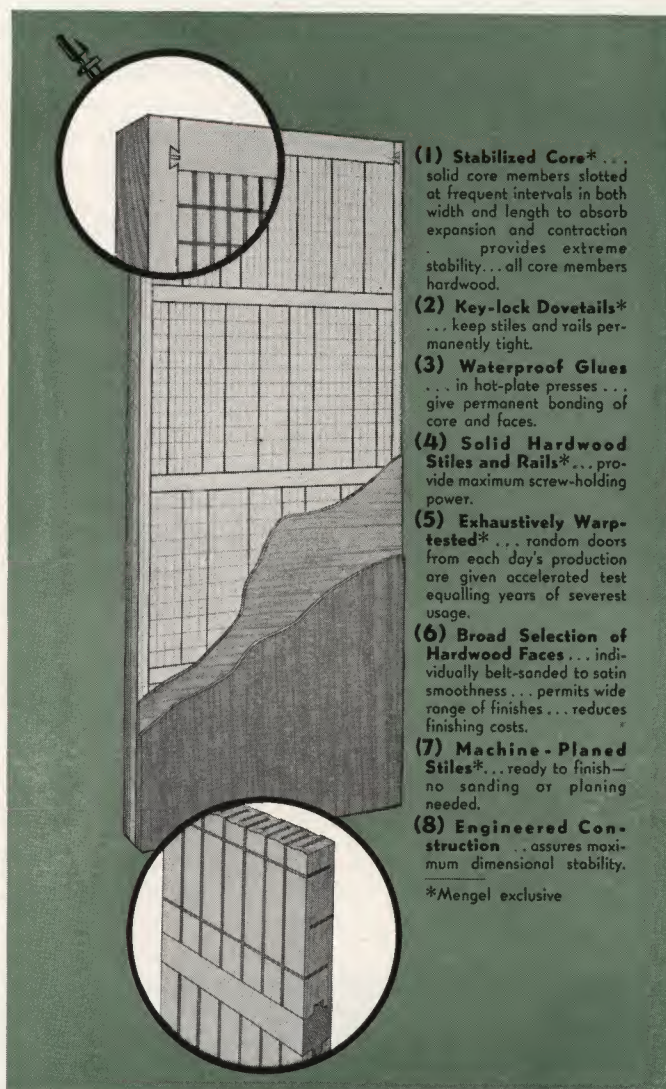

FIGURE 2
Mengel Stabilized Solid-Core Flush Doors are the most dimensionally stable wood doors on the market. They are recommended for exterior applications, and for interior installations wherever solid-core construction is considered desirable. (1) The solid core lumber is scientifically processed to control warpage or movement. (2) Both horizontal and vertical stabilizing slots are employed, with intermediate cross-rails. These slots absorb any expansion and contraction of core members and provide dimensional stability. (See Figure 2.)
**CORES**—Poplar or equal species stabilized by slotting both with and across the grain at regular intervals. (See Figure 2.)
**FACES**—Face veneers assembled with the grain running vertically, at right angles to the grain of the cross banding (see Figure 2).